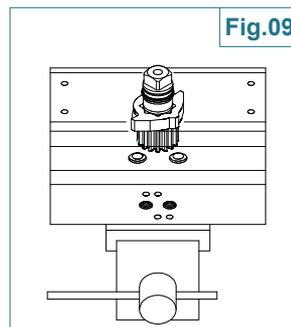

Fig.09
- Ensure that the OCTI-cam is in the right position as shown in Fig.09.